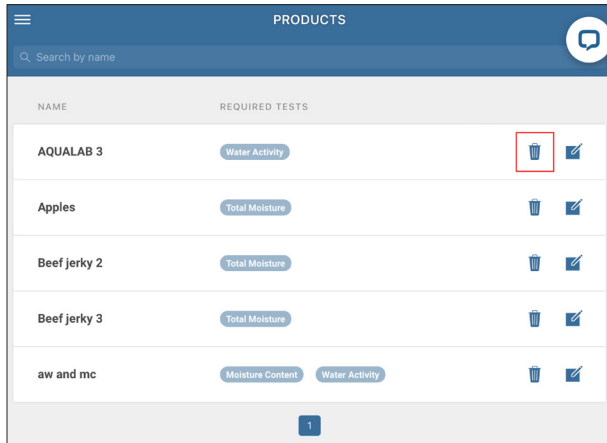

Figure 34 Products list
3. Press on the garbage can icon to remove the product (Figure 34).